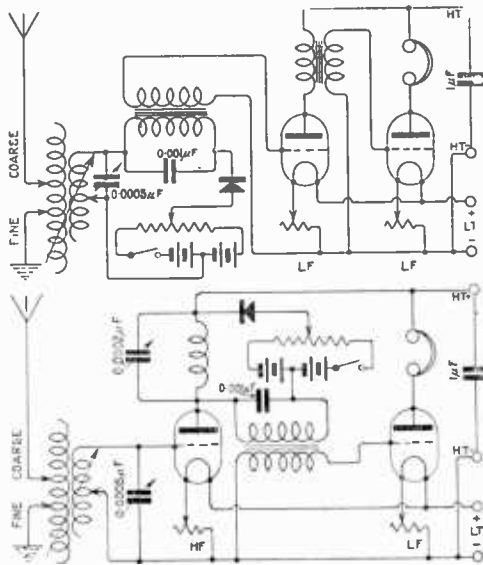

Fig. 3.
help. (2) The receiver could easily be altered. In Fig. 3 the upper diagram shows how two note magnifiers are added to the receiver, and in the lower diagram one high frequency valve is connected with a crystal detector and note magnifier. (3) Outdoor aerials have slight directional properties. To receive the maximum strength